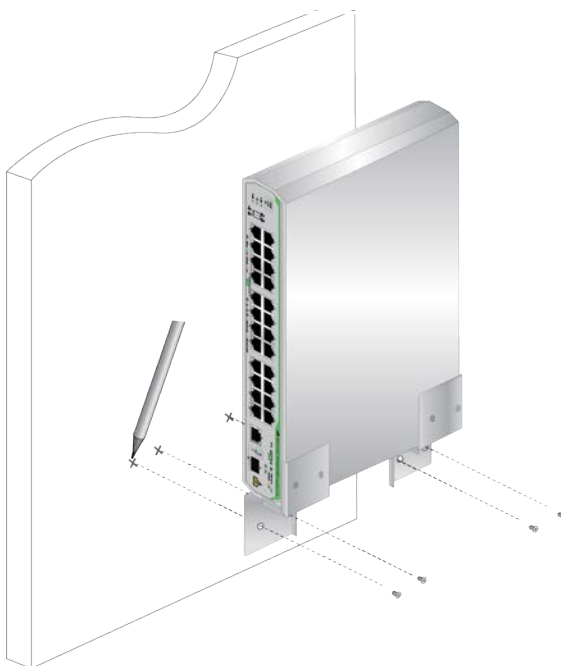

Figure 25. Marking the Screw Hole Locations
3. Have another person hold the switch with the brackets at the location where the switch is to be installed, while use a pencil to mark the wall at the locations of the four holes in the brackets. See Figure 25.